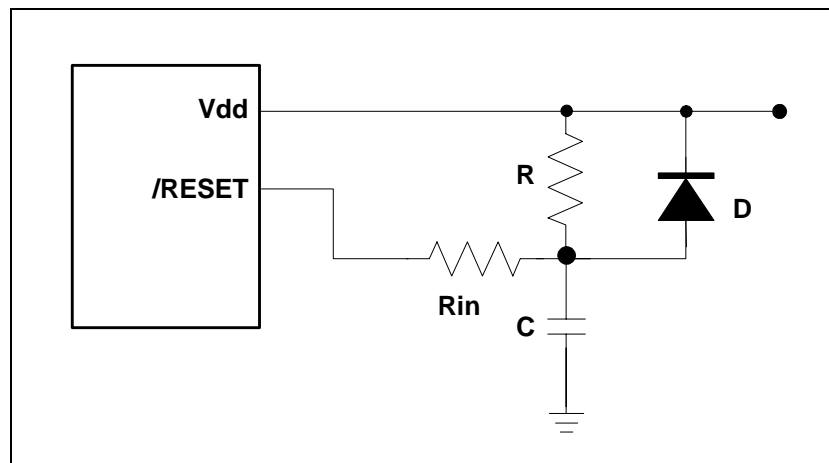

Figure 6-31 External Power-up Reset Circuit
The circuit shown in Figure 6-31 uses an external RC to produce a reset pulse. The pulse width (time constant) should be kept long enough for Vdd to reach minimum operating voltage. This circuit is used when the power supply has a slow rise time. Because the current leakage from the /RESET pin is $\pm 5 \mu\text{A}$, it is recommended that R should not be greater than 40K. In this way, the /RESET pin voltage is held below 0.2V. The diode (D) functions as a short circuit at the moment of power down.